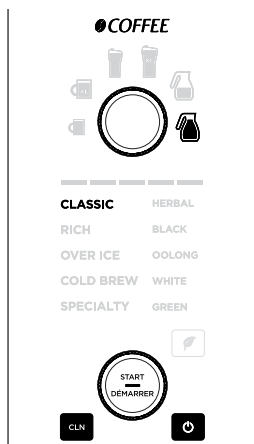

Fig. 9
- Once all parts are securely in place and the unit is powered on, select the Full Carafe size and Classic Brew setting, then press the START/DÉMARREUR dial (Fig. 9).